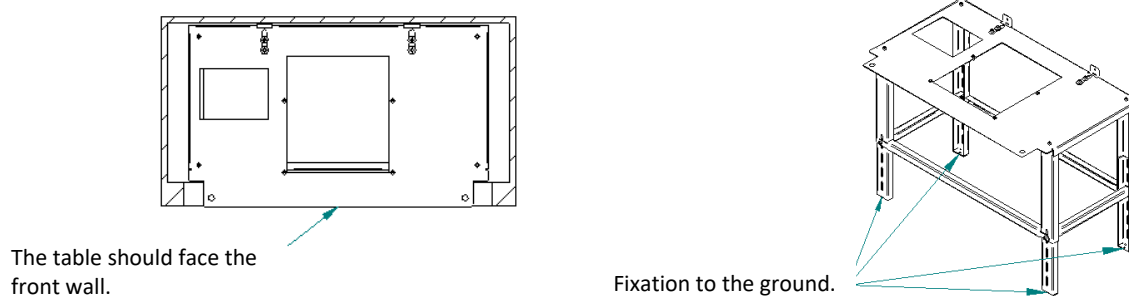

Figure 6 - Auxiliary table assembly
5. Place the auxiliary table in its final position, remember that the table must face the front wall, as shown in Figure 6. Next, mark the four holes for the legs on the floor, then drill the hole, and use the necessary means to fix it as previously indicated. Finally, fix the table to the floor.